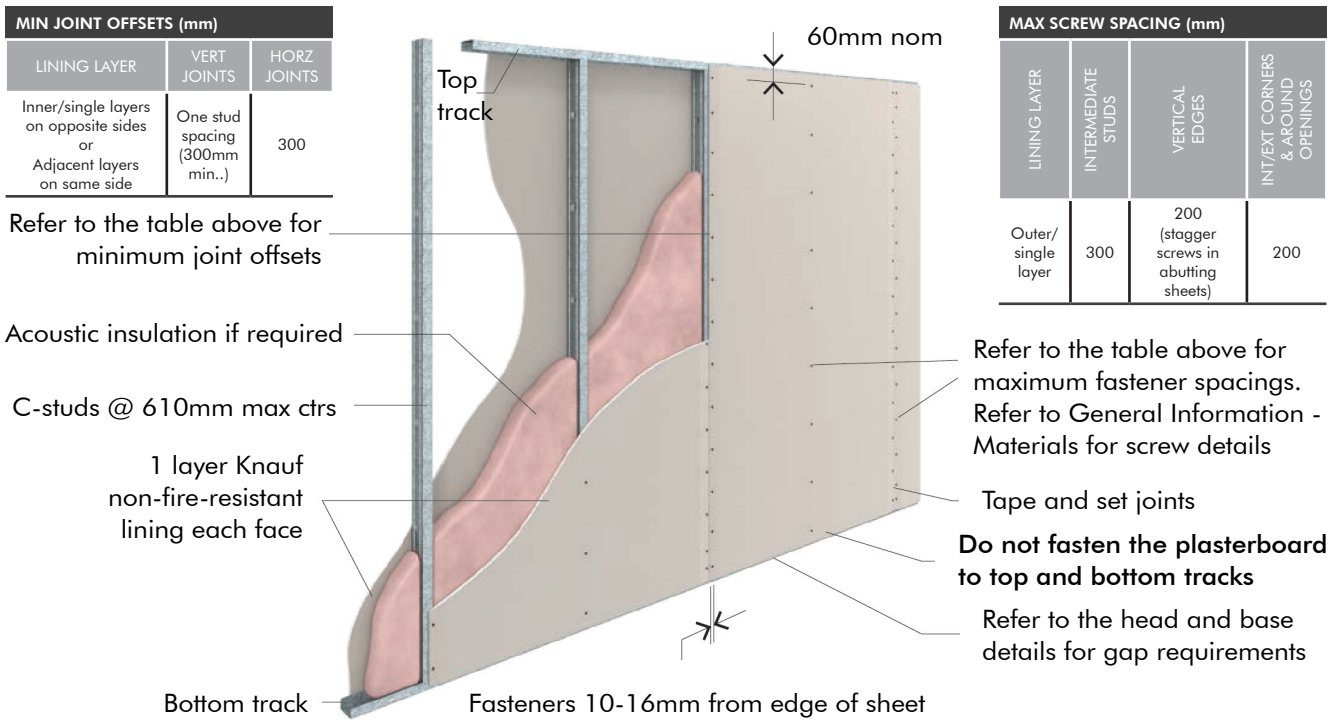

Figure C9: Non-Fire-Rated Steel Stud – Vertical Fixing – Single Layer (fully screw fixed)
- Plasterboard linings can be installed vertically or horizontally in fire-rated and non-fire-rated wall systems. Refer Figures C9–C13 for optional plasterboard configurations in steel stud wall systems.
- For general screw spacings, refer to Figures C9 to C11.